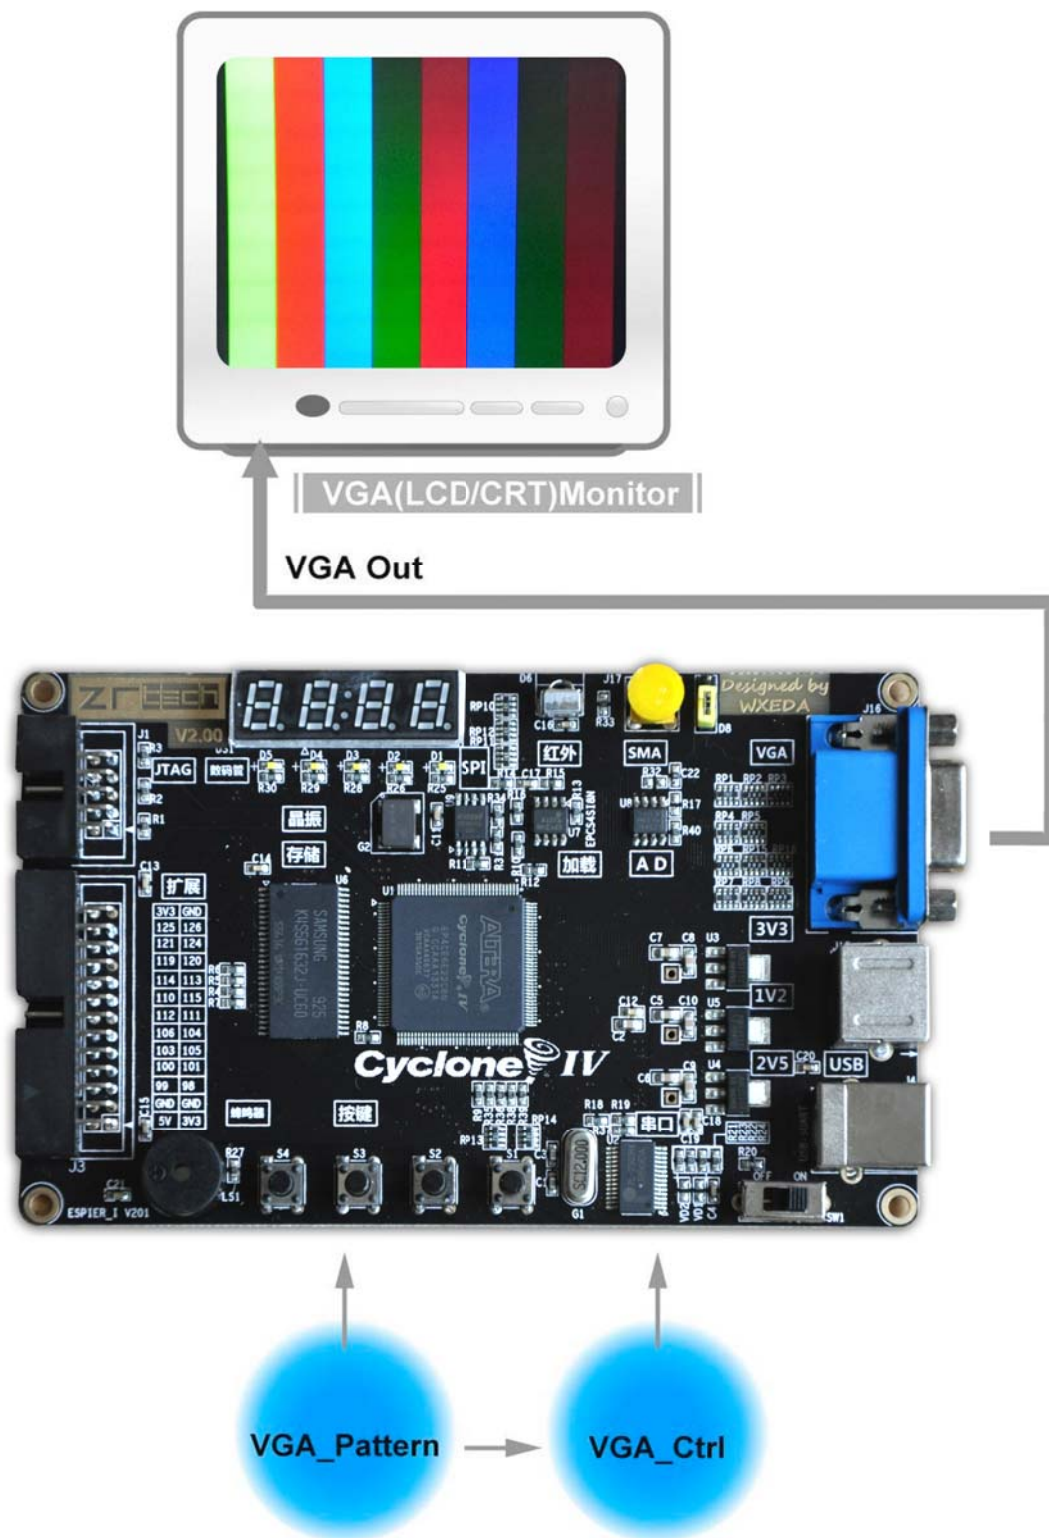

Figure 12
- The LCD/CRT monitor will display the same color pattern on the control panel window. Shown as Figure 12.